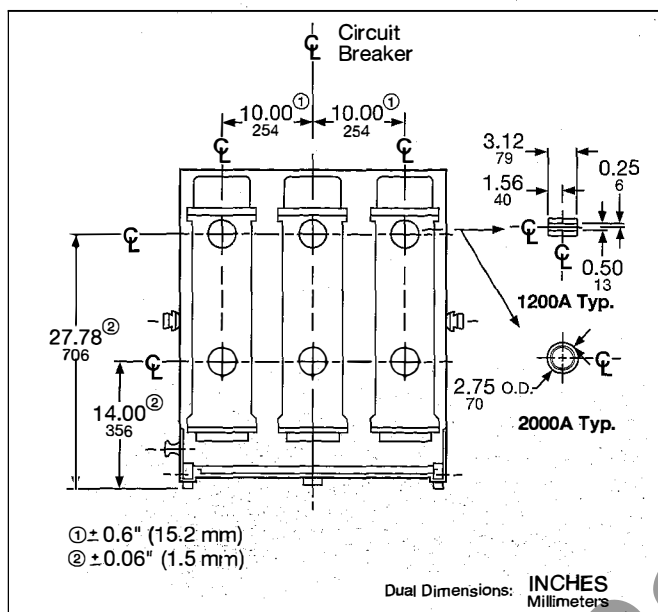

Figure 33: Alignment and spacing
2. Remove and replace one pole unit at a time; never remove more than one bottle at a time. Each replacement pole unit must be properly aligned and spaced relative to the other pole units before proceeding to the next pole unit (figure 33).
4. Make sure the pole unit is properly aligned and spaced relative to the remaining pole units; reinstall the four mounting screws. Adjustment of the finger runback may be necessary to obtain proper alignment (figure 33).
4. Make sure the pole unit is properly aligned and spaced relative to the remaining two pole units; reinstall the four mounting screws. Adjustment of the finger runback may be necessary to obtain proper alignment (figure 33).
16. Ensure that the pole unit is properly aligned and spaced relative to the remaining pole units. Adjustment of the contact finger runback may be necessary to obtain proper alignment (figure 33). Tighten the mounting screws.